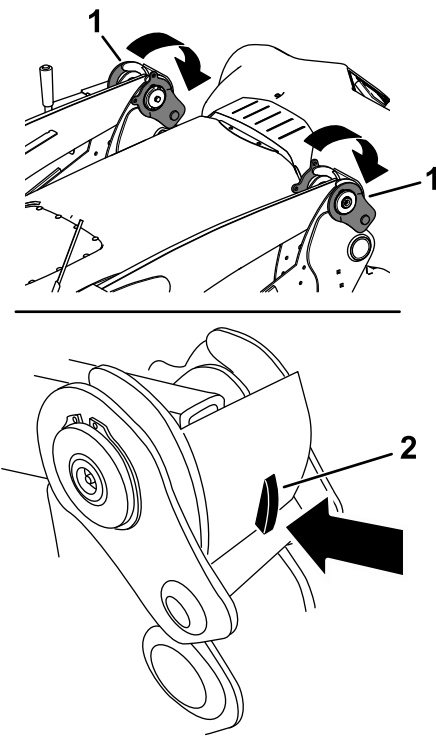

Figure 54
7. Lock the loader arms to the machine by lowering each loader-arm latch so that the latch lock holds the latches in place (Figure 54).